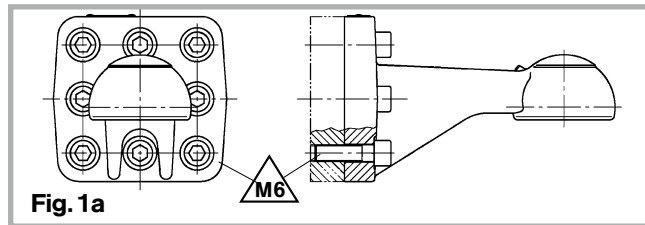
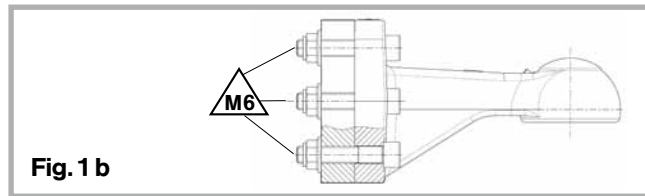

Fig. 1a
Fig. 1b
- The flanged towing eye is bolted to the trailer drawing bar with 8 allen hex bolts M 20 x 70 lg – 10.9 (see fig. 1a) or optional with 8 allen hex bolts M 20 x L – 10.9 and 8 flange nuts M 20 – 10 (fig. 1b; not included in the scope of delivery) (dacromet-coated+TTF). The tightening torque **M6** should be 560 Nm.**